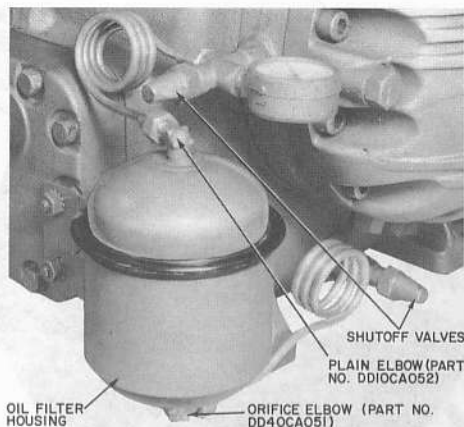

Fig. 19 — Oil Filter Accessory Package (5H40 through 5H86)
OIL FILTER MAINTENANCE — A bleed-type, high-pressure, disposable filter is available as an accessory for 5H40 through 5H86 compressors (Fig. 19). Replace oil filter after the first 50 hours of operation, or whenever the oil is changed or becomes dirty.
1. Close oil-line shutoff valves on each side of filter (Fig. 19).